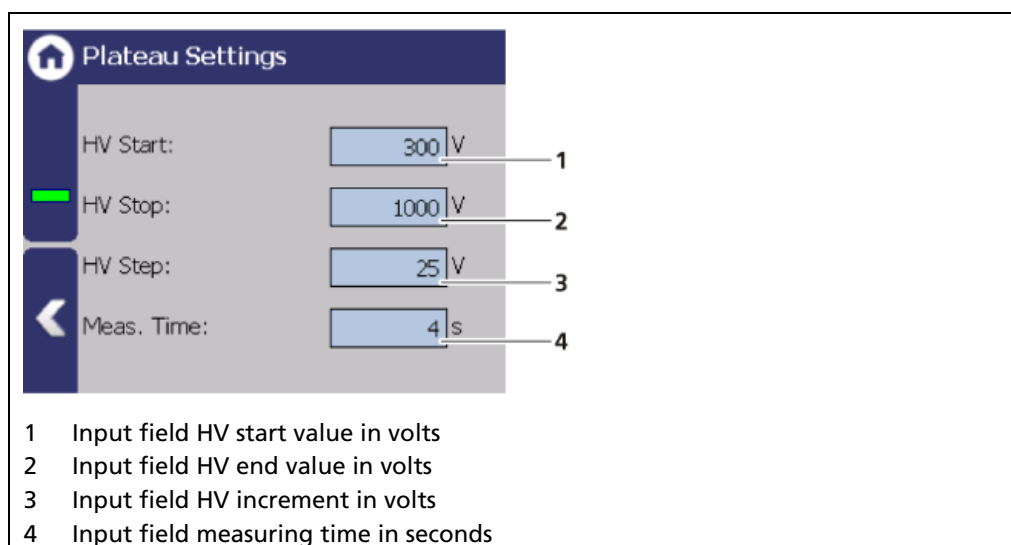

Fig. 49 Plateau Settings
1. Click on the corresponding input field (Fig. 49, item 1-4).